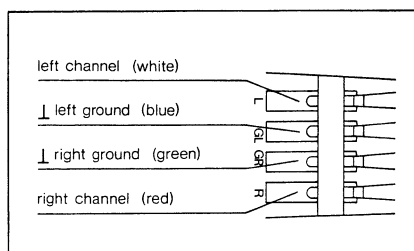

Fig. 13
3. The cartridge pins are marked, and the connecting leads are color-coded (Fig. 13). Connect the leads to the corresponding pins on the cartridge.